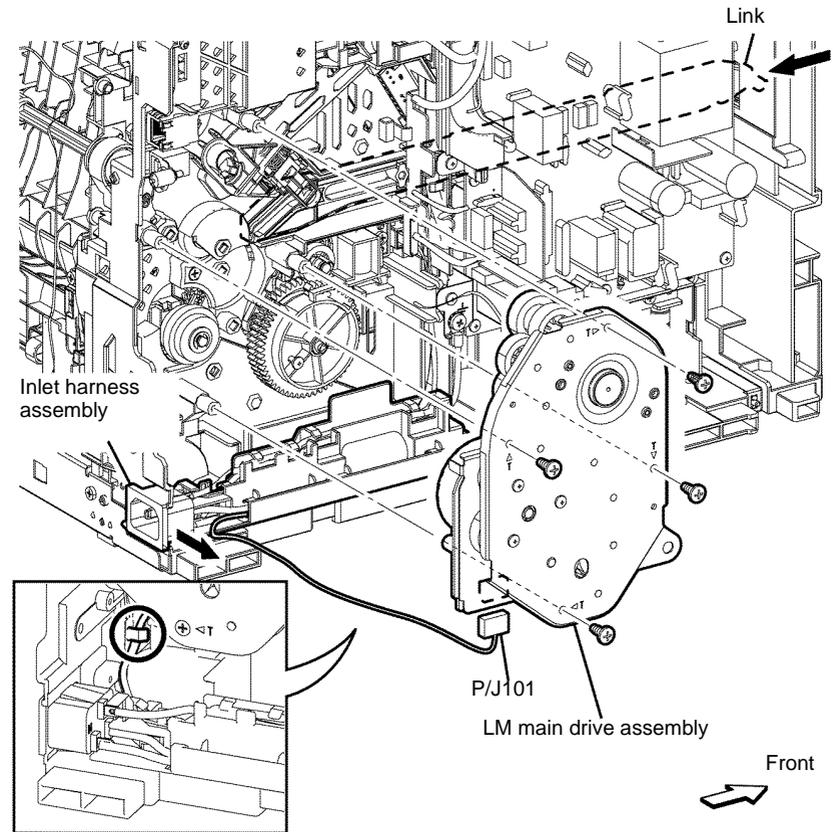

Figure 2 Main drive assembly removal
- Remove four screws (silver, tapping, 8mm) that fix the main drive assembly, then remove the LM main drive assembly from the printer, Figure 2.
- Disengage P/J101 from the LM main drive assembly, Figure 2.